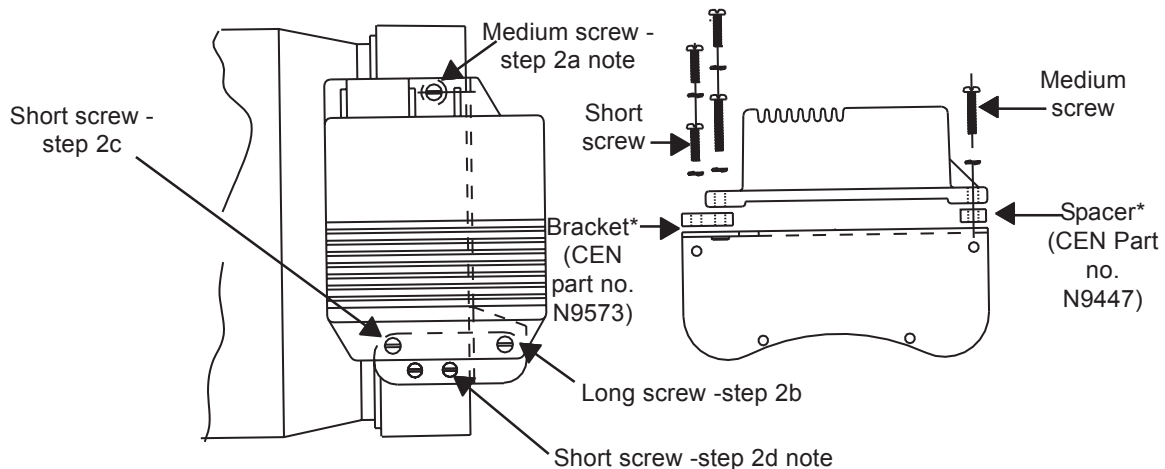

Figure 2—N1382-1/N1382-4 Alternator with New N3104 or N3109 Regulator
- a. one long (Note: medium for Figure 2) screw and washer in regulator mounting hole above spacer.
- d. remaining short screw and washer in bracket. (Note: two screws and washers are required in Figure 2.)